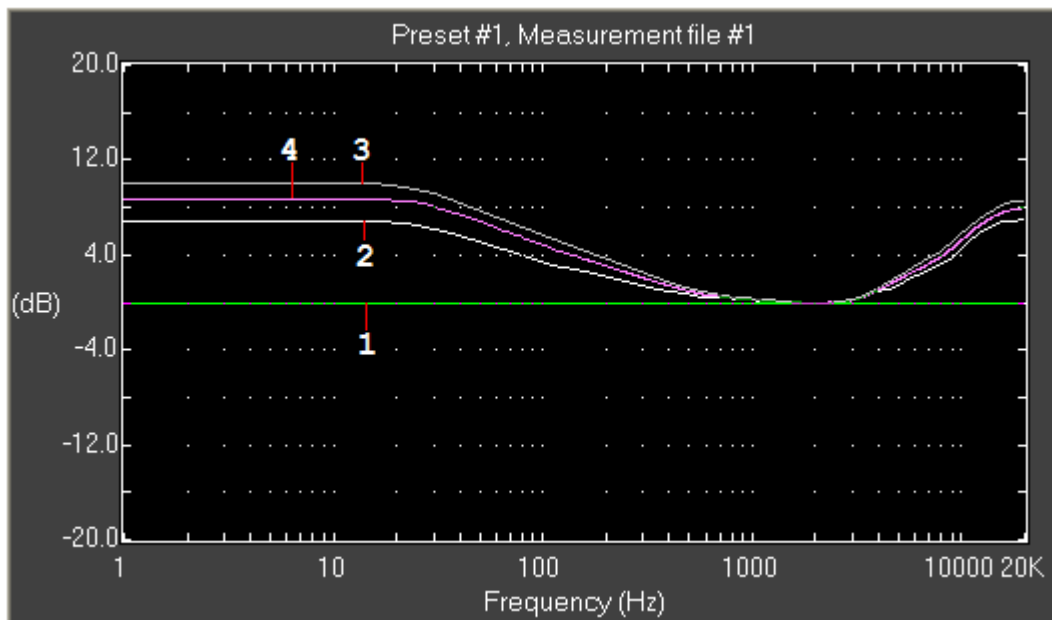

Fig. 9. Equal loudness filter response for master level set at -33.6 dB
Fig. 9 shows correction filter response (4) for master level set to -33.6 dB. 2150 XDM calculates this response by interpolating a target curve between -30 dB (2) and -36 dB (3) dynamic target curves (equal loudness curves). Note that reference target curve is set to a flat line at 0 dB (1).